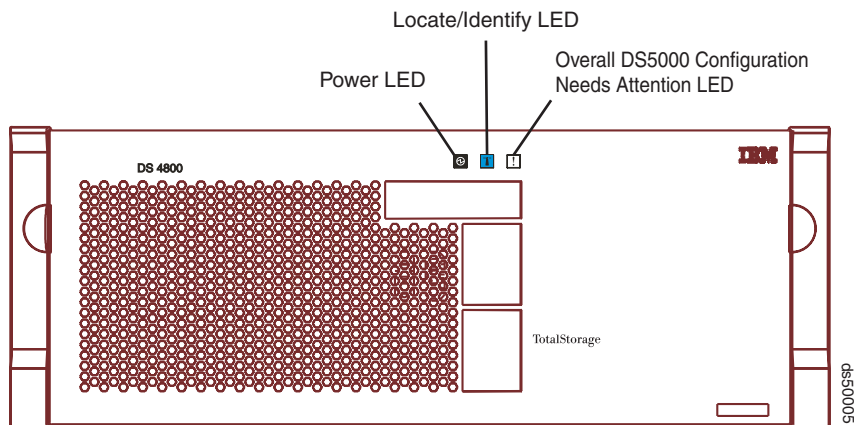

Figure 134. Overall Configuration Needs Attention LED on the DS5100 or DS5300 front bezel
2. Locate the storage subsystem that contains the interconnect-battery unit with the failed battery by checking the Overall Configuration Needs Attention LED on the front bezel of the storage subsystem. (Figure 134 on page 214 shows the location of the Overall Configuration Needs Attention LED on the front